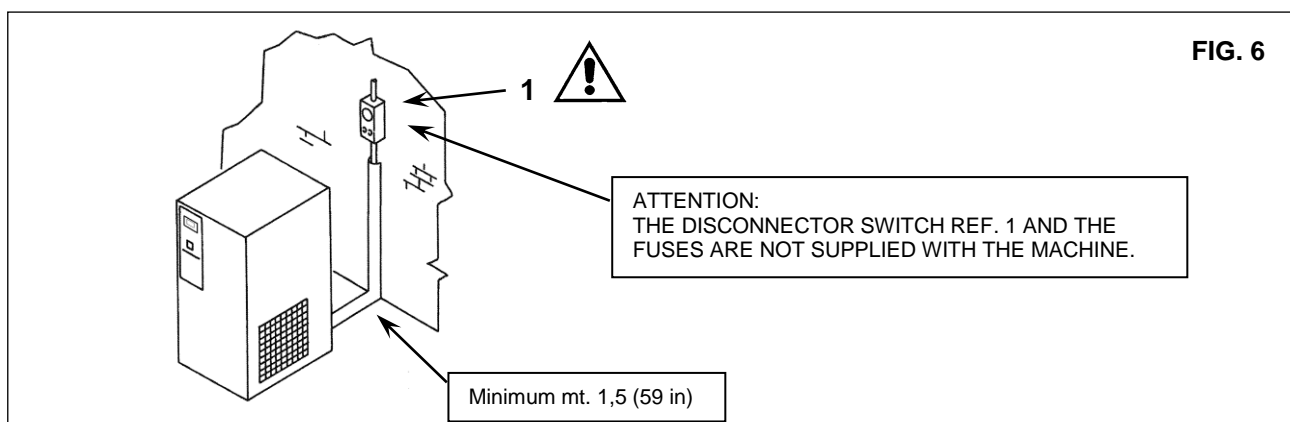

FIG. 6
- ensure that there is sufficient space around the machine to allow maintenance (see Fig. 6).
- **Ensure that there are disconnector switch Ref. 1 Fig. 6 and fuses upstream the machine. For details (size and type) see wiring/service diagram.**